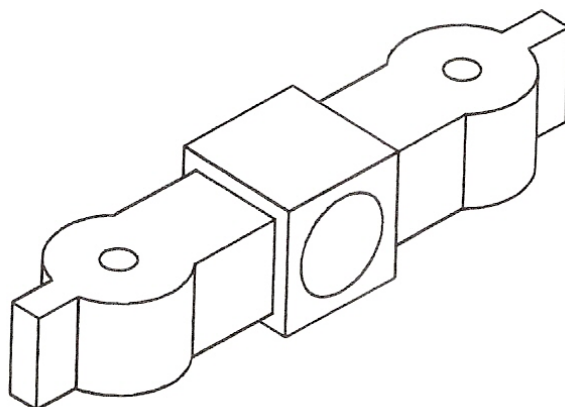
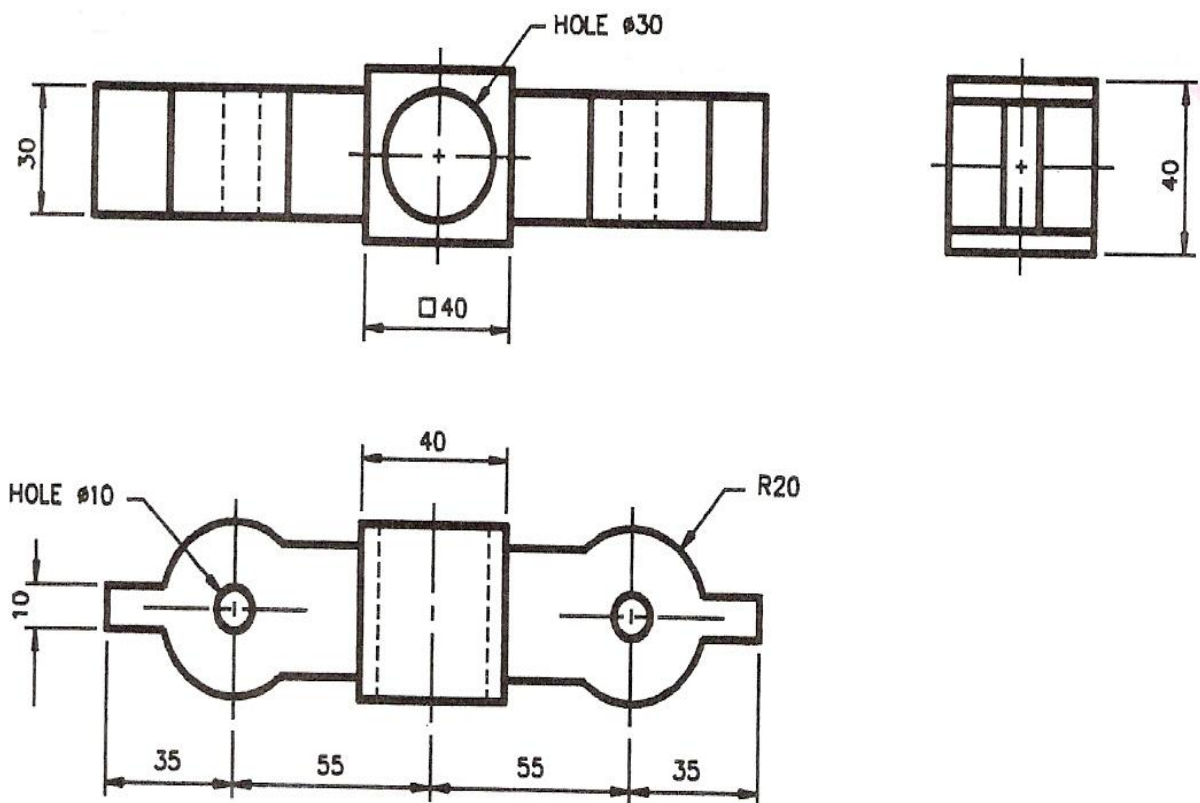

Figure 12 - Pictorial View of a Mounting Rubber
Figure 13 - Example of a Three-View First Angle Orthographic Projection
- Figure 12 is a pictorial view of a mounting rubber from a motor car engine and Figure 13 is an example of a First angle orthographic projection which includes a Front view and End view and a Plan.